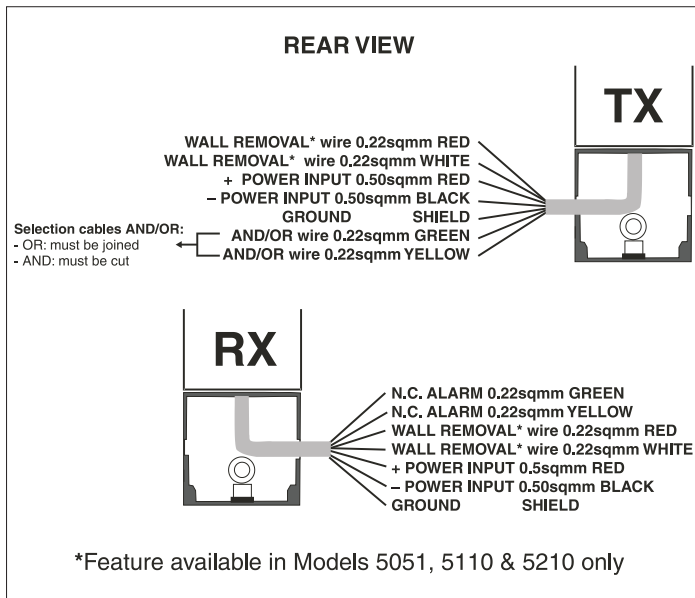

Figure 3: Connecting diagram
- Identify the red and black wires 0.5 sqmm and connect them to the power output (Red+, Black-) of the alarm control panel (**Figure 3**)